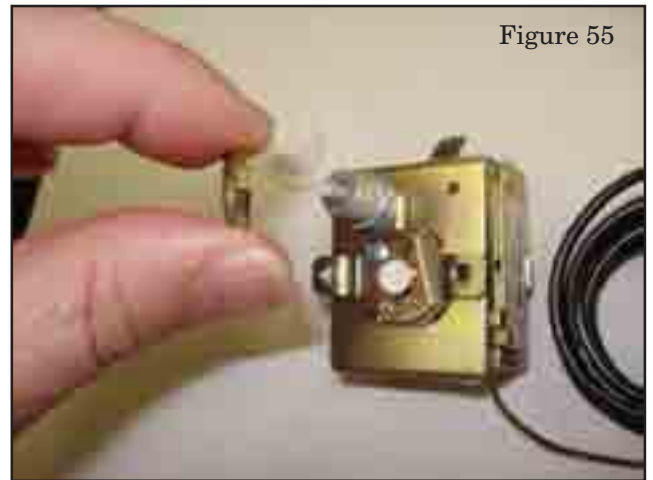

Figure 52
7. Remove the spring clip and the sensing bulb of the existing auto-reset water temperature limit switch from the boiler temperature well. Do not remove the bulbs of the adjustable supply water thermostat and temperature gauge. See Figure 52.